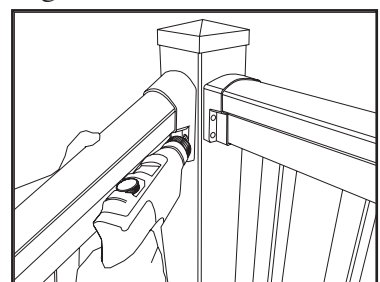

Fig. 5
10. Center top rail over bottom rail and mount brackets onto post or mounting surface. Also make sure balusters are aligned at the desired angle. Attach brackets with provided 2 1/2" screws. (FIG. 5)